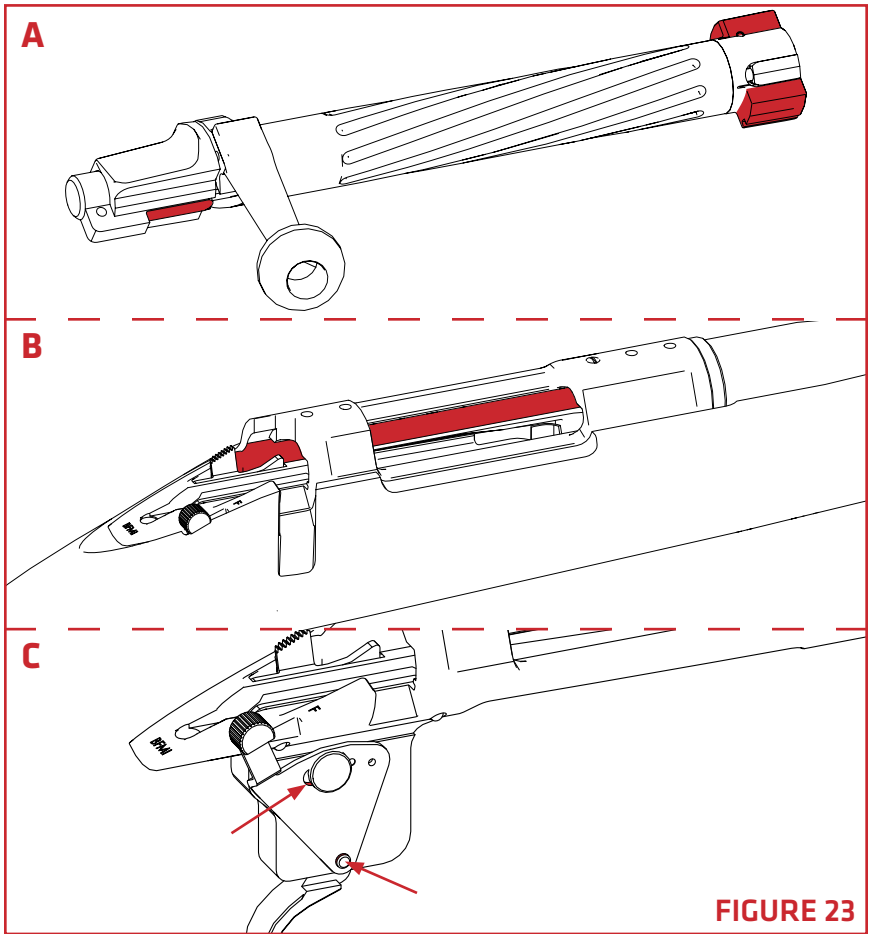

FIGURE 23
8. Clean bolt assembly using solvent or CLP. lubricate sliding surfaces with light grease or oil (**FIGURE 23**).